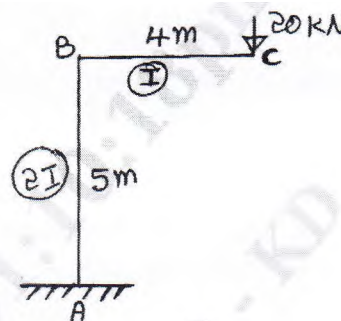

Fig.Q5(c)
- c. Determine the vertical and horizontal deflection point C for the mill bent as shown in Fig.Q5(c) by unit load method.